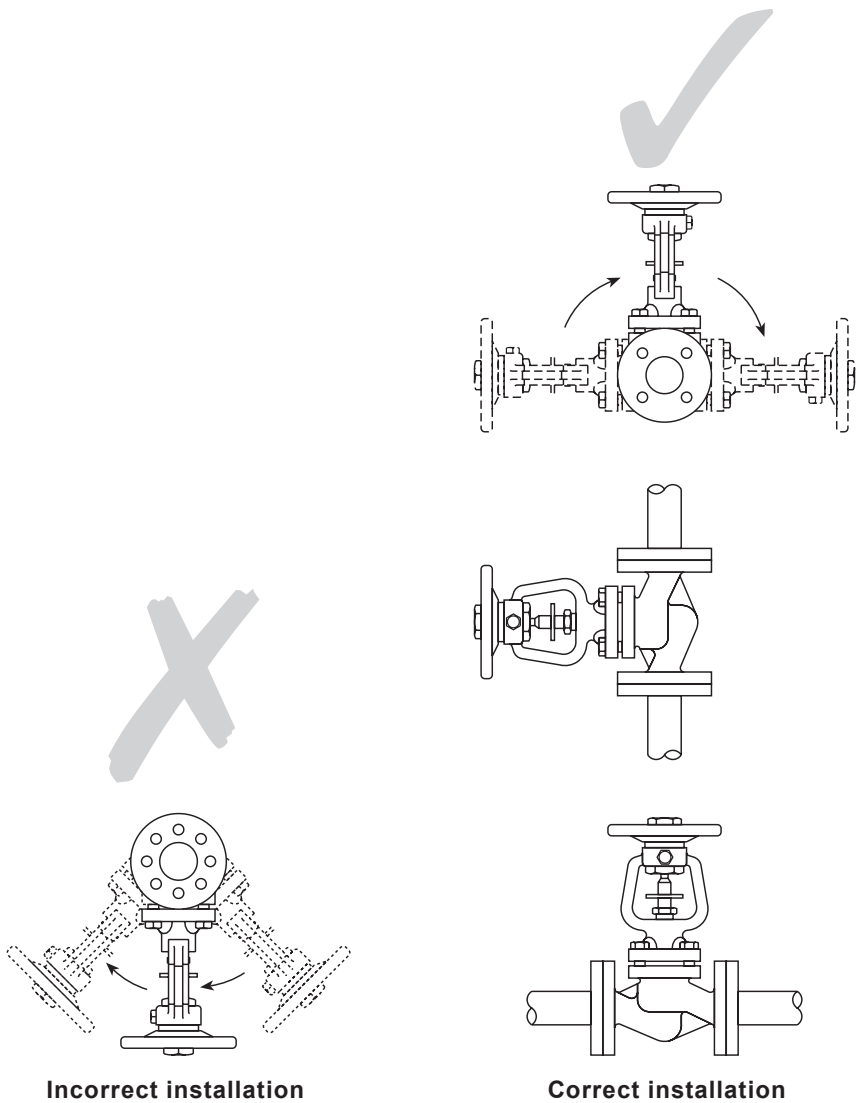

Fig. 4
- 3.3** Install the valve in the direction of flow given by the arrow on the body. The preferred position is with the spindle vertical. The valve can be installed from the vertical to the horizontal plane (see Figure 4).